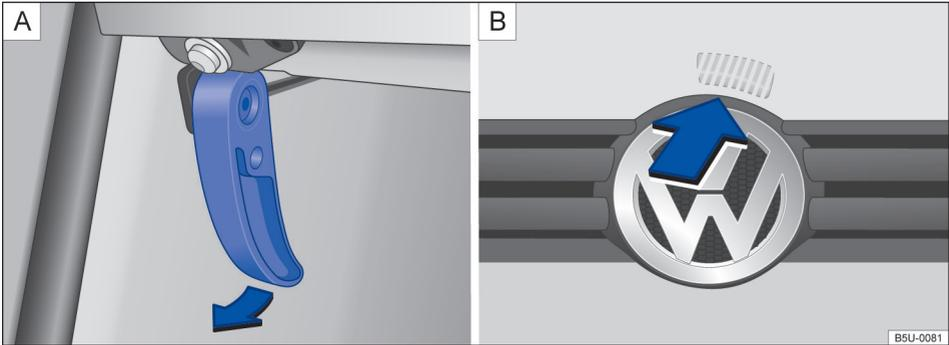

Fig. 151 A) Bonnet release lever on the driver side footwell. B) Bonnet release lever on the inner side of the bonnet.
- Ensure that the windscreen wiper arms are positioned on the windscreen before opening the bonnet → ①.
- Pull the release lever in the direction of the arrow → Fig. 151 A). The bonnet is released from its lock by a spring mechanism → ▲.
- Slightly lift the bonnet and press the release lever → Fig. 151 B) located on the inner side of the bonnet simultaneously, in the direction of the arrow, to open the bonnet.